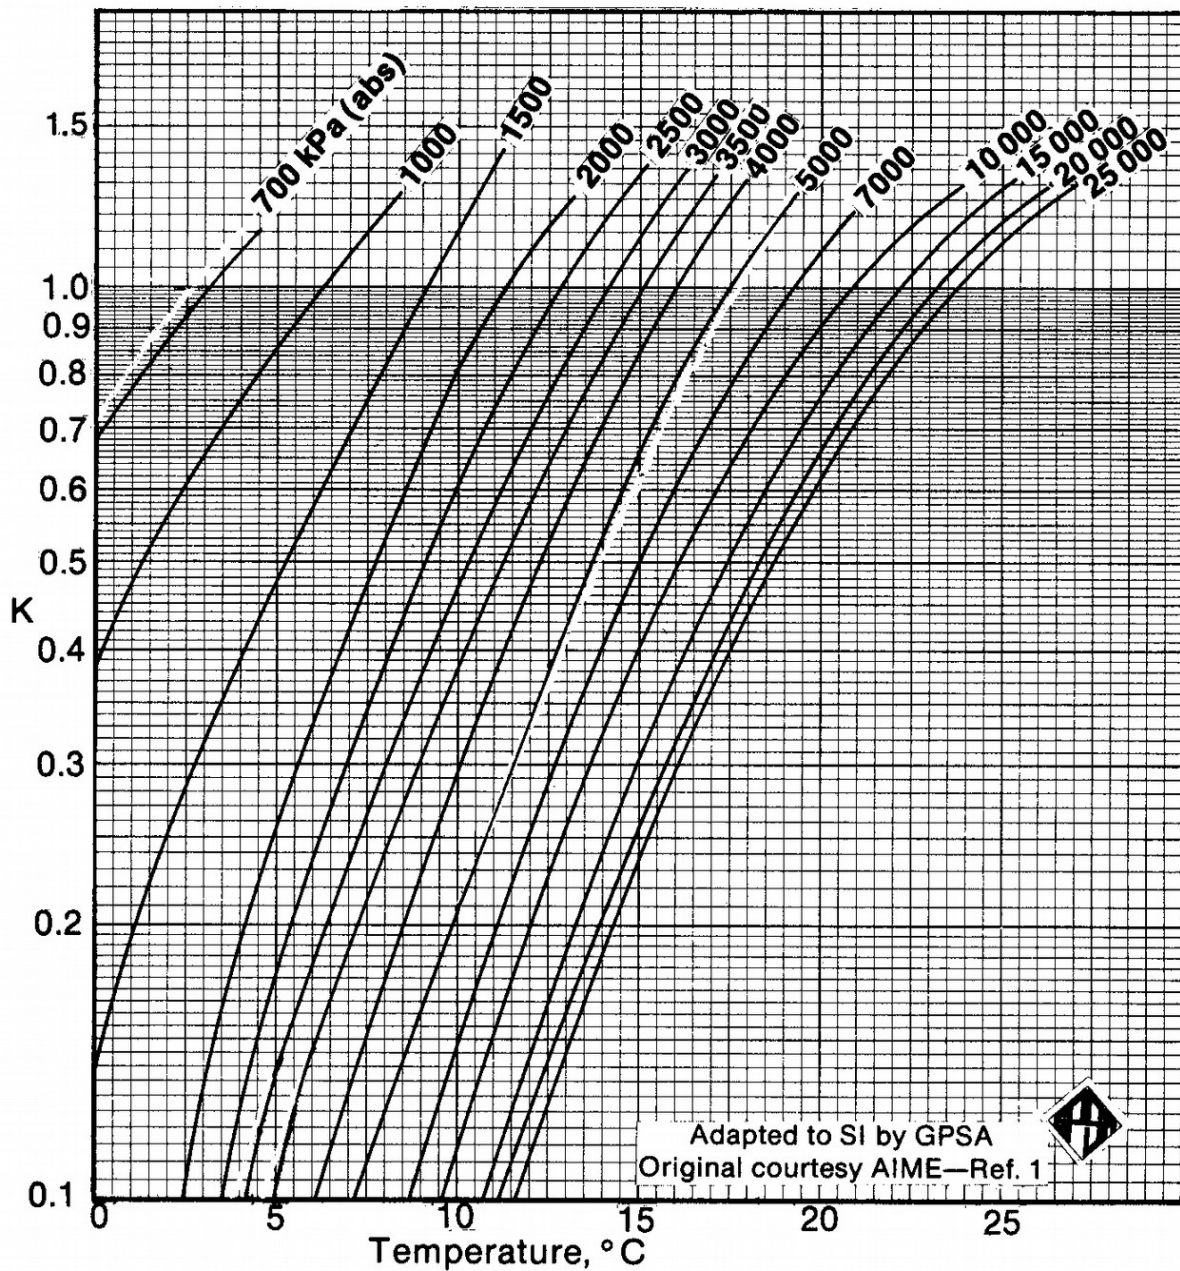

Figure 3: Hydrate K -value chart for ethane.
- b) Hydrate formation can be calculated using K charts, an example of which is given in Fig. 3.